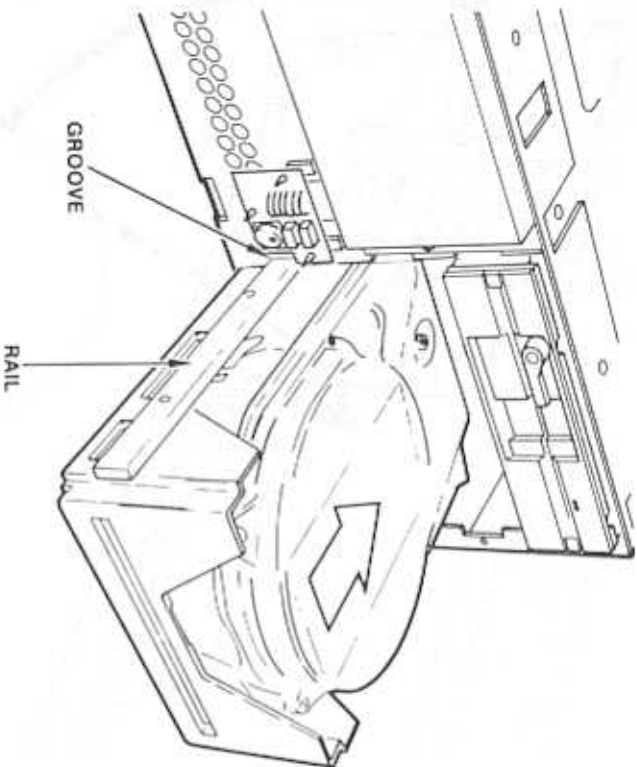

Figure 11-21. Inserting the Fixed-Disk Drive
6. Line up the guide rail on each side of the drive with the groove in the chassis, and slide the drive partway into its slot (Figure 11-21).